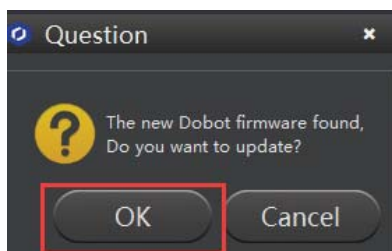

Figure 5.39 Confirm the firmware upgrade
2. Click **OK**, as shown in Figure 5.39.